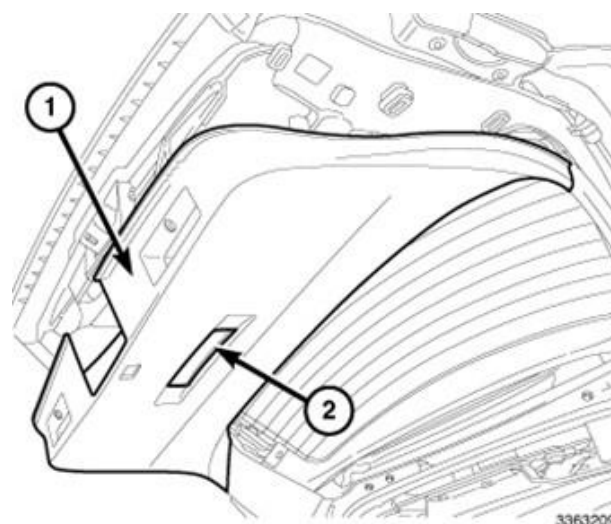

Figure 4 – Liftgate Lower Panel
5. Using trim stick or equivalent, pry around the perimeter of the lower trim panel (1) to release the retaining fasteners (Figure 4).
6. Position the lower trim panel (1) slightly away from the door and disconnect the wiring harness from the liftgate lamp (2) (Figure 4).
7. Remove the lower trim panel (1) (Figure 4).
24. Position the lower trim panel (1) towards the door and connect the wiring harness to the liftgate lamp (2) (Figure 4).
25. Align the trim panel's retaining fasteners to the openings in the liftgate, hand tap around the perimeter of the lower trim panel (1) to engage the retaining fasteners (Figure 4).